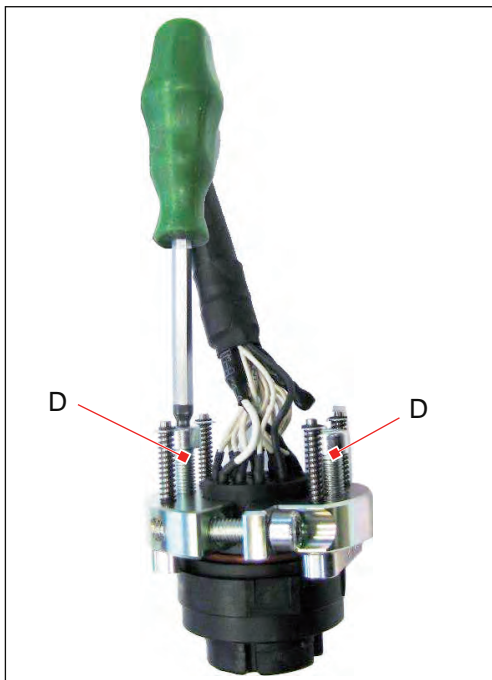

Fig. 16: Pull off crimp adapter from the replacement insert
- ▶ Tighten the 2 screws (D) until the crimp adapter loosens from the replacement insert and can be taken off (Fig. 16).